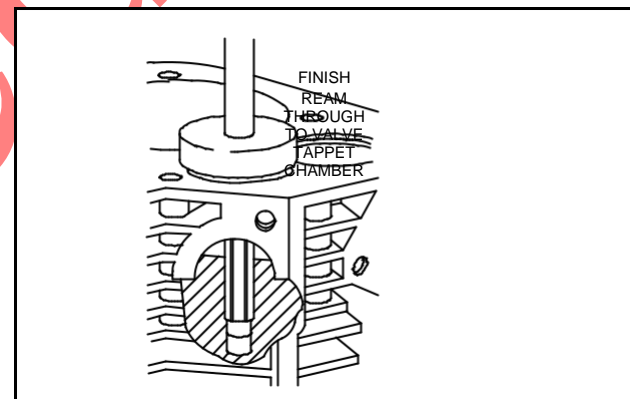

Fig. 20 – Finish Ream
- Finish ream guide with reamer #19233, and pilot guide #19234, Fig. 20.
- Ream clockwise through entire guide into valve tappet chamber, Fig. 20.